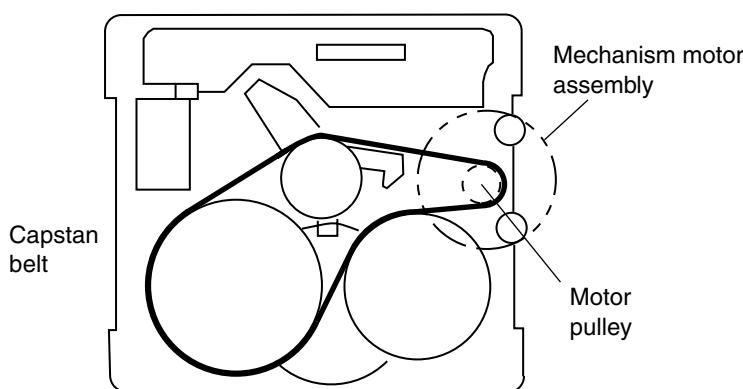

Fig. 5
**CAUTION:** Be sure to handle the capstan belt so carefully that this belt will not be stained by grease and other foreign matter. Moreover, this belt should be hanged while referring to the capstan belt hanging method in Fig. 5 and 6.